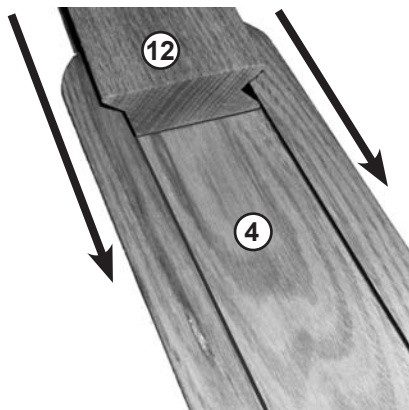
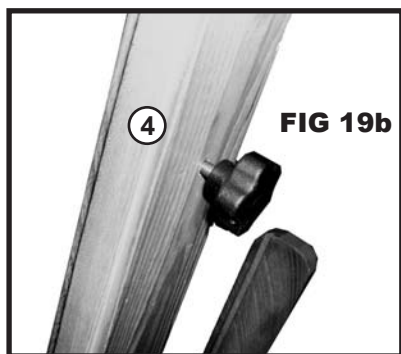

FIG 19
FIG 19b
STEP 19. This step involves adding the Adjustable Center Column (12) down into the Channelled Center Column (4). See FIG 19. To secure into place, thread one of the remaining two shorter knobs into the hole found on the rear of the Channelled Center Column. See FIG 19b.